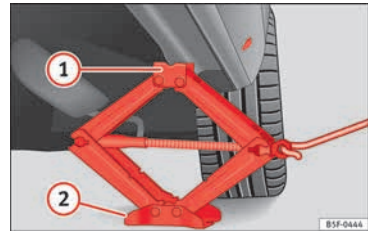

Fig. 75 Strut: mounting the jack on the vehicle.
• Turn the jack*, located below the strut support point, to raise it until tab ① »» **Fig. 75** is below the housing provided.
• Align the jack* so that tab ① “grips” onto the housing provided on the strut and the mobile base ② is resting on the ground. The base plate ② should fall vertically with respect to the support point ①.